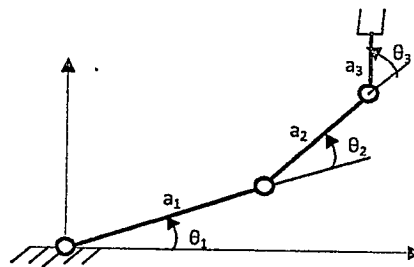

Fig. 1
4. Determine D-H parameters for a three link planar arm shown in Fig.1. Obtain the forward kinematic solution. [16]